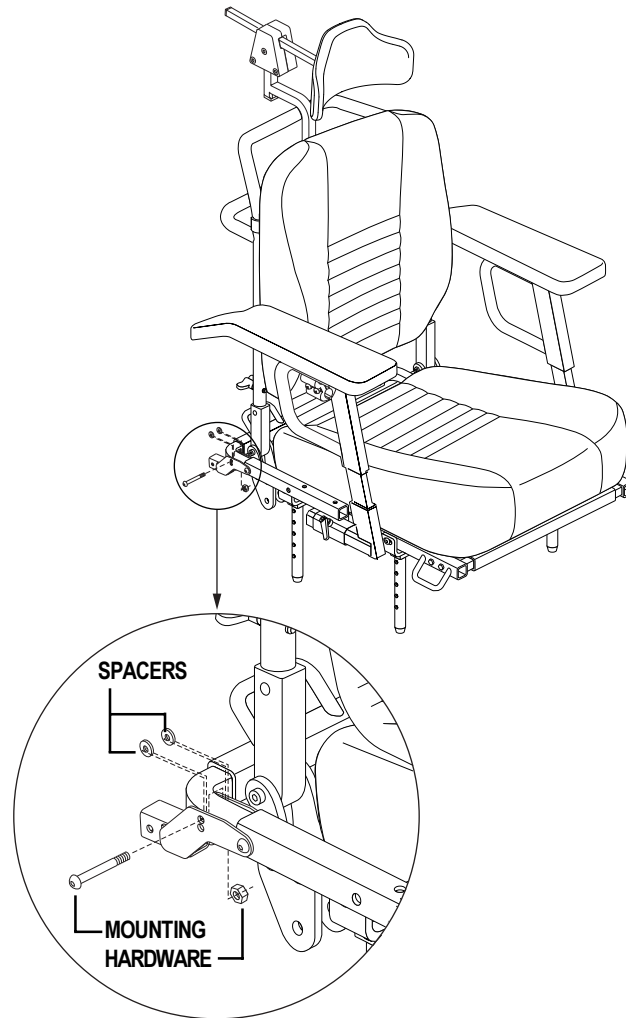

Figure 12b. Securing the Accessory Bracket
5. Insert the two (2) black nylon spacers between the bracket and the side rail on either side of the side rail, then install the additional button head screw. Secure the screw with the Nylock jam nut. See figure 12b.